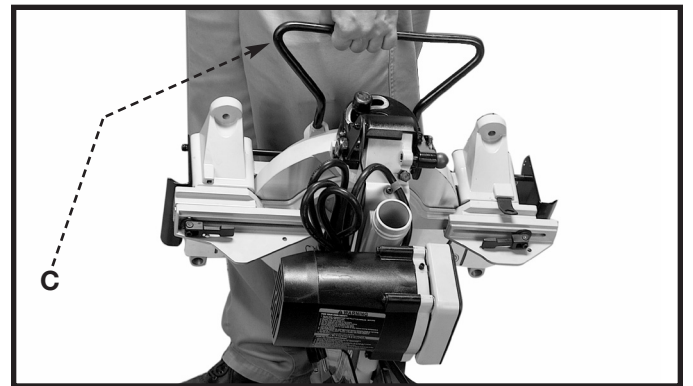

Fig. 49
Carrying the machine by the switch handle will cause misalignment. Always lift and carry the machine by the base or by the carrying handle (C) Fig. 49.